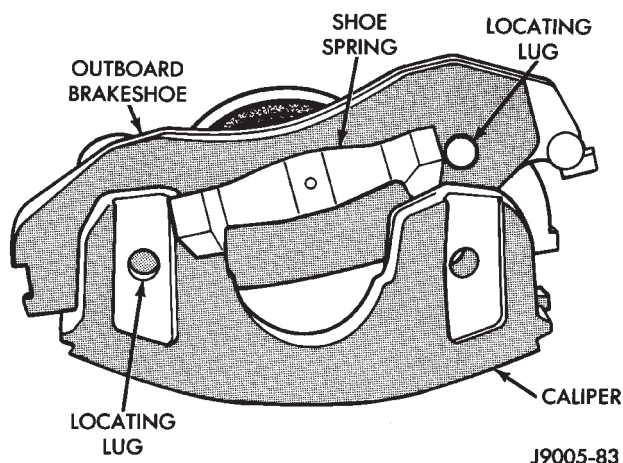

Fig. 29 Outboard Brakeshoe Removal
(6) Remove outboard shoe by pressing one end of shoe inward to disengage shoe lug. Then rotate shoe upward until retainer spring clears caliper. Press opposite end of shoe inward to disengage shoe lug and rotate shoe up and out of caliper (Fig. 29).